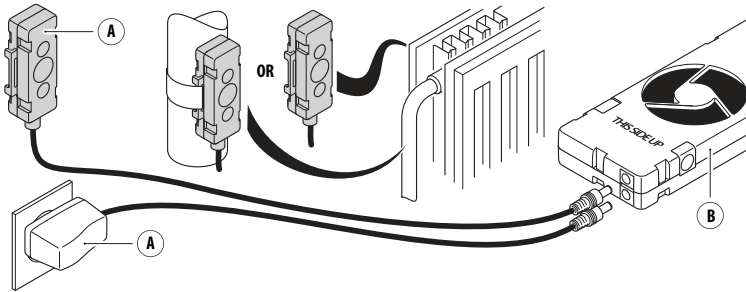

Fig. 3 - Connect the power adapter (A1) and temperature sensor (A2).
4. Attach the **temperature sensor** (A2) with its magnets (a2, a3) on the back of the radiator, close to the warm water supply pipe, or on the pipe itself (see fig. 3).
5. Connect the **power adapter** (A1) to the remaining **female connector** (b1 or b2) and the wall socket (see fig. 3).